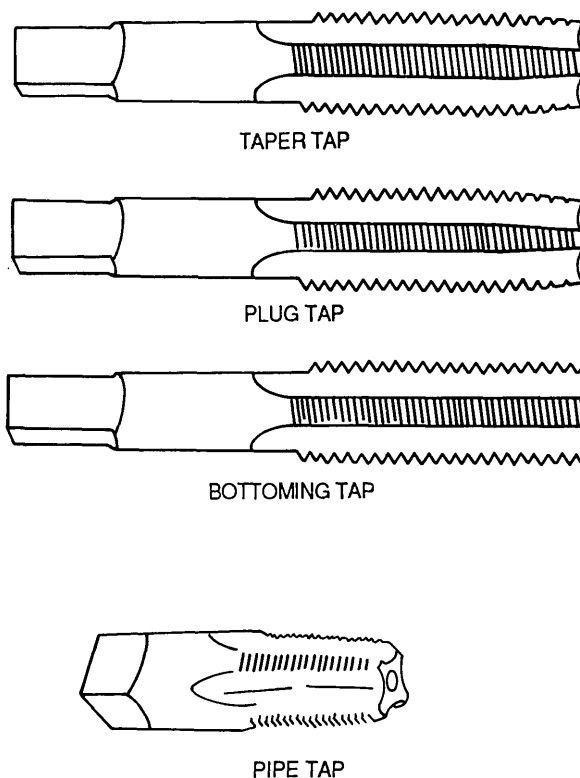

Figure 4-101. Taps
(1) Types. The four types of taps are the taper, plug, bottoming, and pipe taps, as shown in figure 4-101.